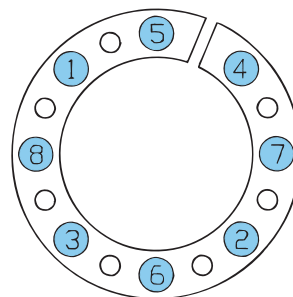

Fig. 14 Recommended screw tightening sequence
4. Tighten locking screws evenly in several stages to specified tightening torque (M_A), listed in table below or specification tables. Use diametrically opposite tightening sequence, however, with following exception: The two screws adjacent to the slit should be torqued one after the other to avoid possible distortion of the thrust rings, see Fig. 14.